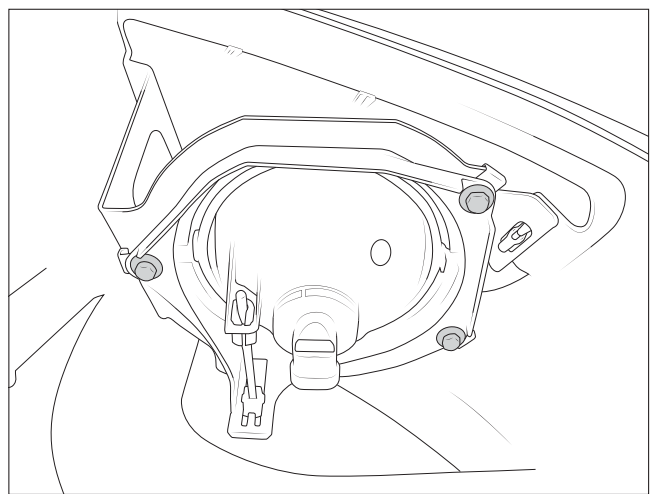

Figure 3
4. Remove and SAVE 3 M6 Bolts holding the factory fog lamp (fig. 3).